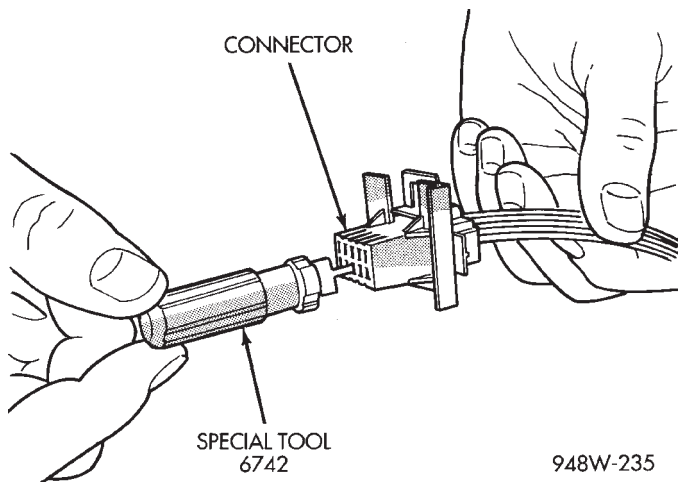

Fig. 13 Using Special Tool 6742
(4) Using special tool 6742 release the locking fingers on the terminal (Fig. 13).
(5) Pull on the wire to remove it from the connector.
(6) Repair or replace the connector or terminal, as necessary.